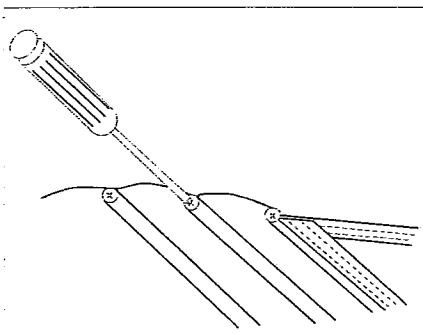
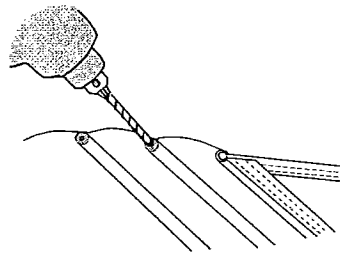
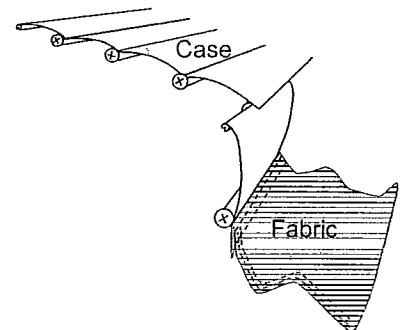

Figure 4
Figure 4a
Figure 4b
1. Disconnect the case slat directly attached to the fabric from the remaining portion of the case by unscrewing the Phillips screw from each end of that case slat (Fig. 4) and slide that slat, together with the fabric, out of the other slats. If the case slats are secured with rivets rather than screws (awnings before 1980), drill off rivet heads (Fig 4a) on both ends of end slat. When reassembling, used special #6 screw provided. NOTE: This will be easier to do if the slat is twisted slightly downward keeping it from binding. (Fig. 4b)
4. Slide the case slat with the fabric back into the case assembly until it is even with the other slats. Again, lifting and twisting downward as shown in Fig. 4b to allow slat to slide easily. Re-install the Phillips screws at each end of the case slat to secure it in place.